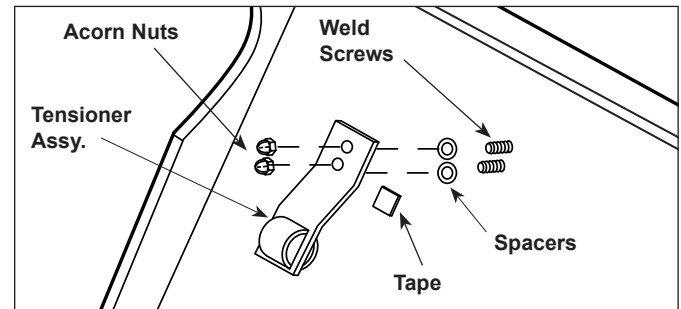

Figure 5. Replacing Roller Tensioner Assy.
1. Remove the acorn nuts and old roller Tensioner Assembly (Figure 5).